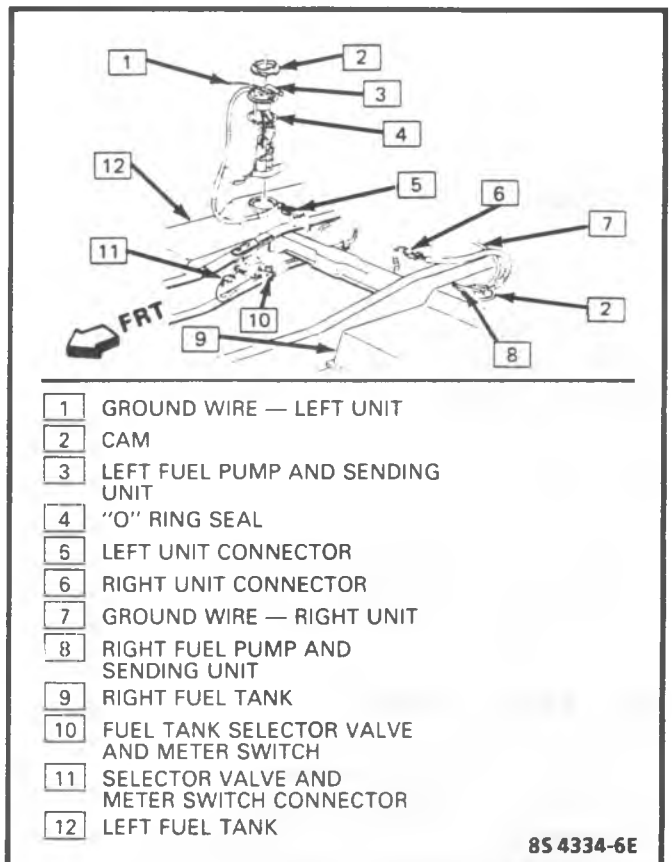

Figure 3-14 - Selector Valve and Meter Switch Connector
2. Disconnect fuel tank selector valve and meter switch connector (Figure 3-14).
1. Disconnect fuel tank selector valve and meter switch connector. (Figure 3-14.)